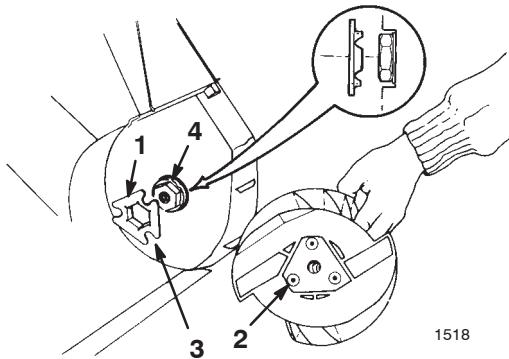

Figure 17
5. Align the left side of the new rotor with the coupler. The 3 bosses on the rotor end must align with the slots on the coupler (Fig. 17).